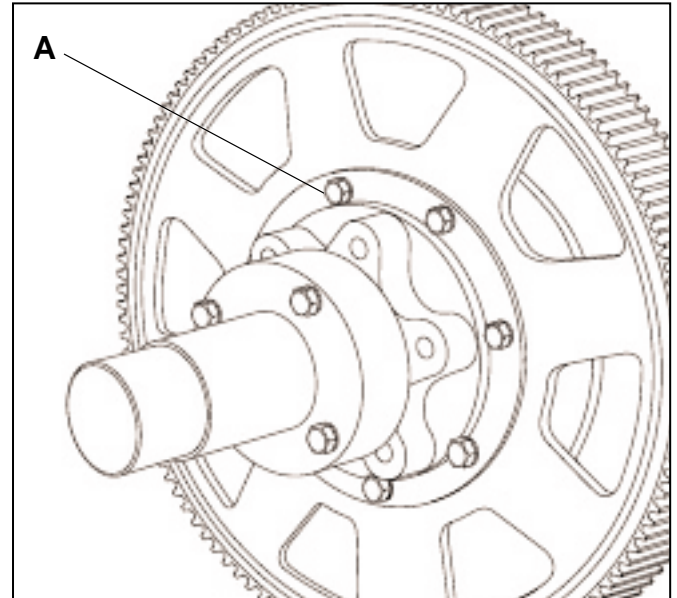

Figure 11.9 BULL GEAR.
1. Unbolt bull gear from hub (bolt A in figure 11.9).